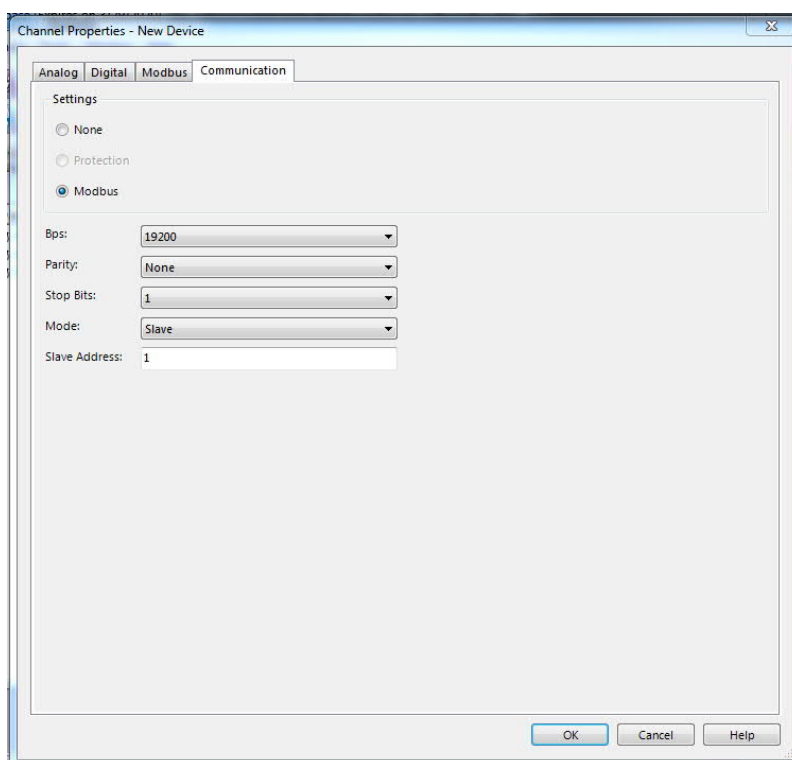

Figure 4. Communication settings
- Click the Modbus radio button. [Figure 4]